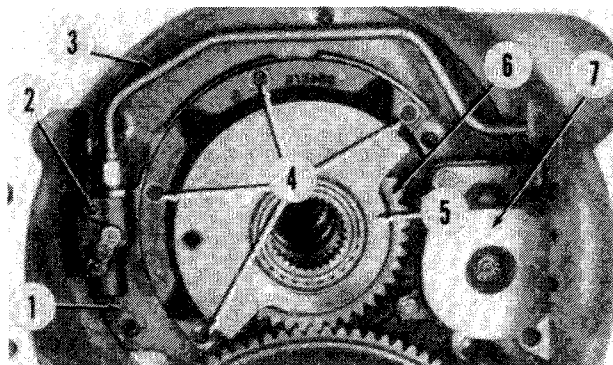

Fig. 152—View of front of clutch housing.
133. INPUT PLANETARY AND TRANSMISSION PUMP. The transmission pump and input planetary assembly can be removed after detaching clutch housing from the engine as outlined in paragraph 131. Remove low and high range shafts. Support (do not raise) the Sound-Gard body with an overhead hoist and a suitable lifting bracket such as JDG-15. Remove left front body mounting bracket from clutch housing. Remove six cap screws from traction clutch valve housing securing oil pump (7—Fig. 152), then withdraw pump from clutch housing. Remove pto drive gear bearing support (5) and drive gear (6). Remove shift valve oil line (3). Remove cap screws securing input planetary housing (1). If input planetary does not break free of clutch housing, pry against plug in shift valve to free unit. Carefully lift out clutch and
If pto drive gear, bearings or drive gear support were renewed, the drive gear end play must be checked and adjusted as follows: Install drive gear (6—Fig. 152) and support (5) with enough shims to allow gear end play. Use a dial indicator to measure gear end play, then remove shims as necessary to ob-